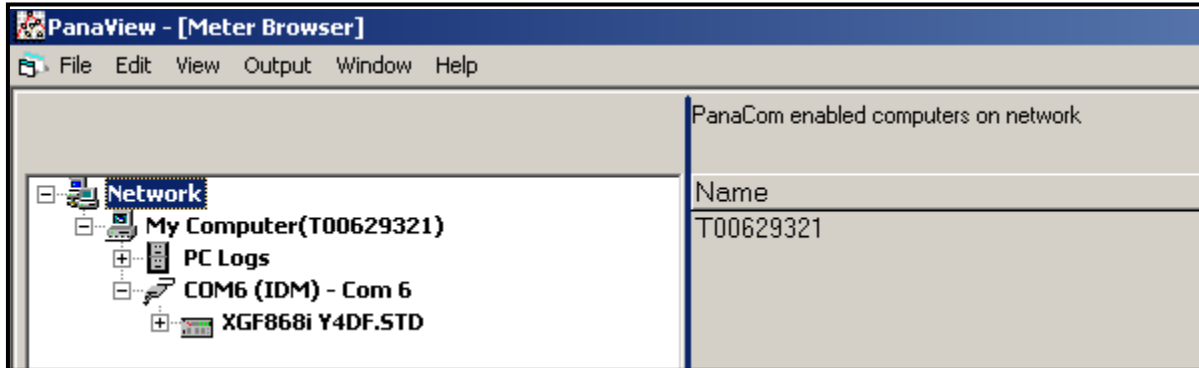

Figure 3: Text Display Window
3. Using the *Window* menu, arrange the open windows in the desired format. For this discussion, Figure 3 below shows the *Text Display* window in its maximized (full-screen) size.
Note: Figure 3 above has been compressed both vertically and horizontally for improved clarity.
5. Before actual data values can be displayed in the text pane, activate one of the following data collection modes (refer to Figure 3 on page 35):